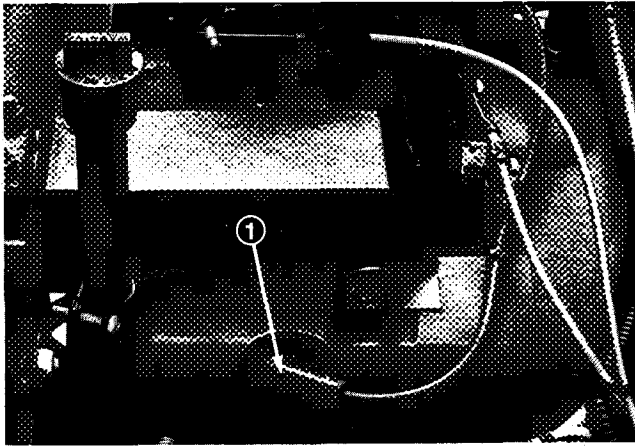

Figure 38
2. Pull high tension wires off spark plugs and remove plugs from cylinder head (Fig. 38).